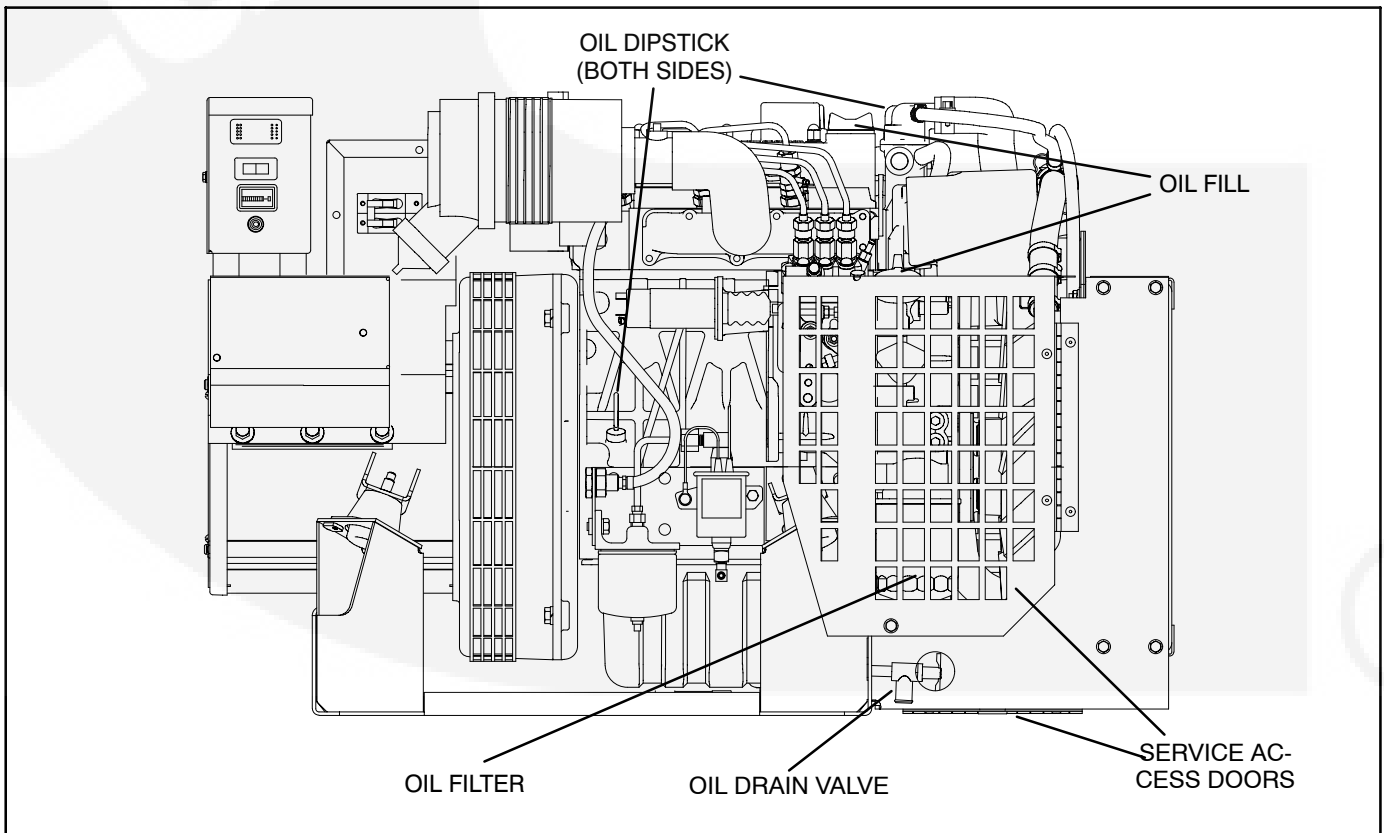

FIGURE 5. OIL CHECK, FILL, DRAIN AND FILTER
Keep the oil level between FULL and ADD on the dipstick (Figure 5). See ENGINE OIL RECOMMENDATIONS (p. 5) for the oil to use.
**Draining Engine Oil:** To drain the engine oil, run the engine until thoroughly warm and stop it. Open either the side or bottom service access door to get at the oil drain valve and oil filter (Figure 5). Drain
**Changing Oil Filter:** To change the oil filter, place a container under the oil filter (Figure 5) to catch oil that drips out and then spin off the oil filter. Clean the filter mounting surface (making sure to remove the old gasket), apply oil to the new filter gasket and spin the filter on until the gasket just touches the mounting pad. Then tighten an additional 3/4 turn.